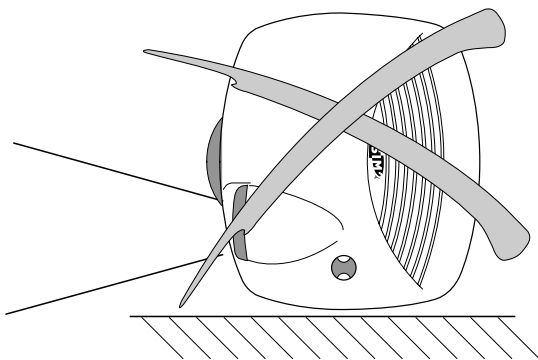

Fig. 29
**Do not install - or operate - the projector on its side: this position will dramatically shorten the life of the lamp (Fig. 29).**